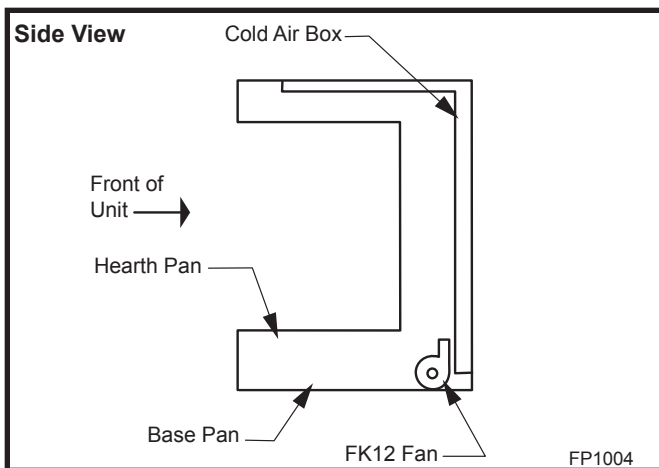

Fig. 75 FK12 Fan Kit placement.
2. Install FK12 fan in back of unit between hearth supports. (Fig. 75)